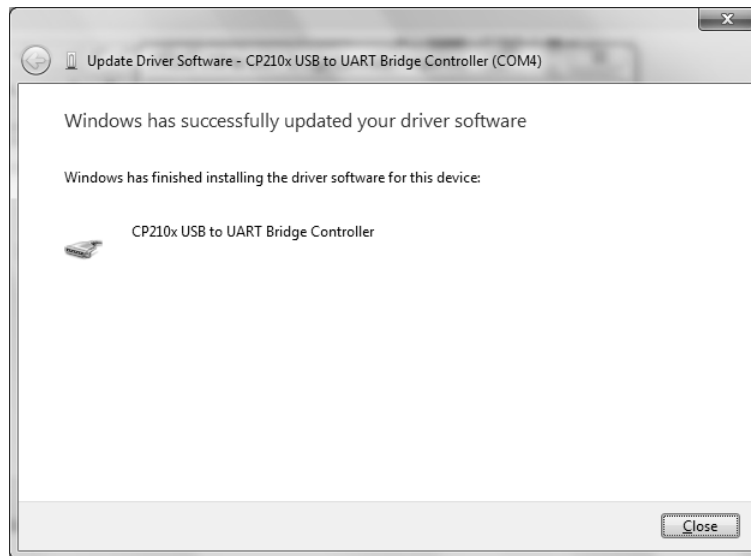

Fig. 73 Installation complete
(23) Click **Next** to start installation of the driver. When the installation is completed, the screen shown in Fig.73 appears. Click **Close** to complete installation normally.